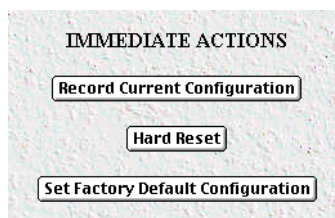

Figure 23. Immediate Actions buttons
- **Record Current Configuration**—clicking on this button (see figure 23) saves the current configuration from volatile DRAM memory to FLASH memory. Once the configuration is saved into FLASH memory, the configuration will not be lost even if the power is cycled on the 3096RC. Initially, changes made to the 3096RC configuration are stored in volatile DRAM, enabling the user to set the box up with a working
- **Hard Reset**—this button (see figure 23) causes the Model 3096RC to perform a cold restart. When you select **Hard Reset**, the T-DAC confirms that you want to execute this command. Then, the T-DAC will disconnect all current sessions, re-initialize the interfaces, and re-load configuration parameters from FLASH.
- **Set Factory Default Configuration**—this button (see figure 23) clears out the configuration in FLASH and loads the factory default parameters into FLASH memory. The factory default settings will not execute on the Model 3096RC until it is re-booted by doing a Hard Reset.
**Note** **Set Factory Default Configuration** (figure 23) will delete any routing information, the Model 3096RC's Ethernet IP address, and any other site-specific settings made for your particular installation. You will have to re-enter the Model 3096RC's Ethernet IP address and net-mask using the rear panel control port before using the HTTP/HTML Management pages.